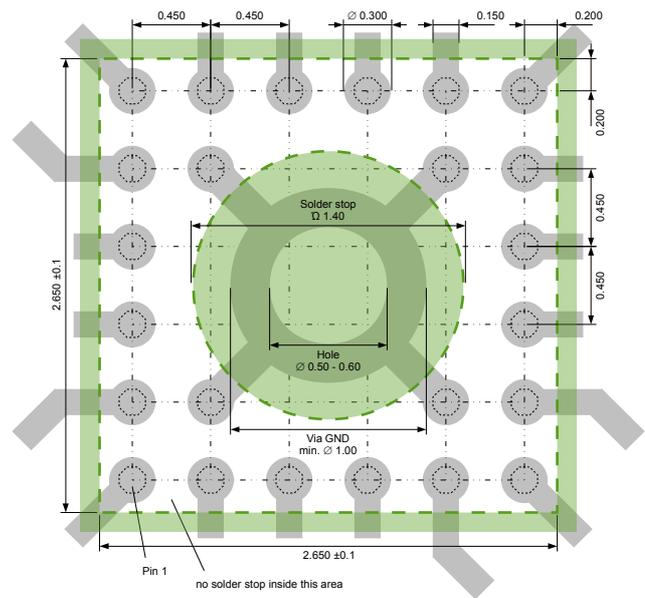

Figure 7: Layout recommendation
- Use a pad layout similar to Figure 7. Notice all tracks should go underneath the solder mask areas.
- To keep the noise floor low in the sensitive receiver path of the chip, a low ohmic and low inductive connection to the supply ground is needed. Figure 7 suggests a recommended grounding of the chip (if a ground plane is not feasible): Feed all grounds into a central via-hole with a drill diameter 0.5 - 0.6mm.